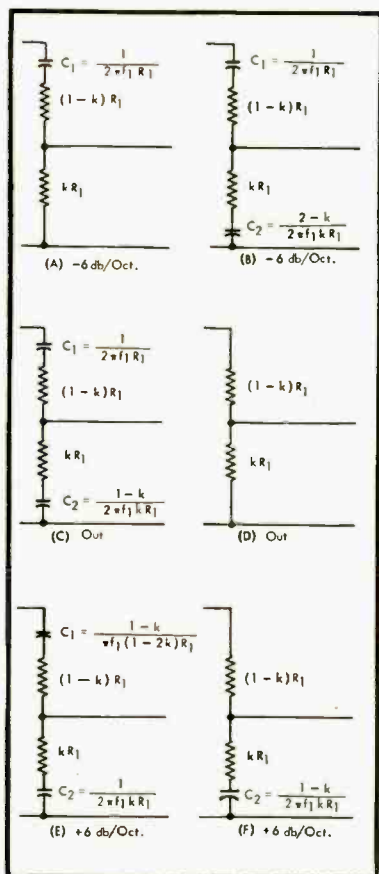

Fig. 3. Circuit configurations and formulas for bass equalizer section.
For a selection of a 3-db frequency of 300 cps and a 6-db-per-octave bass droop, the bass equalizer reduces to the circuit of (A) in Fig. 3, where the total resistance $R_t = 0.1$ megohms approximately, $k = 1/20$, and $f_1 = 300$ cps.
If "out" or flat response is chosen, the circuit of (C) in Fig. 3 is applicable (or (D) if switch connections are made according to the dotted lines of Fig. 1). The capacitive divider in this case has the same loss as the resistive.
If an elevated 6 db plateau is chosen, the circuit of (E) in Fig. 3 is applicable. A capacitive divider with 6 db less loss than the resistive begins to take over in the region of the nominal 3-db frequency.
It will be evident that the capacitors in Figs. 3 and 4 were chosen so that the 3-db points for Figs. 3A and 4A would be exactly f_1 and f_2 , and so that the attenuations of the capacitive voltage dividers would be exactly $k/2$, k , or $2k$ as called for. For small values of k , the expressions for calculating the capacitances become quite simple.